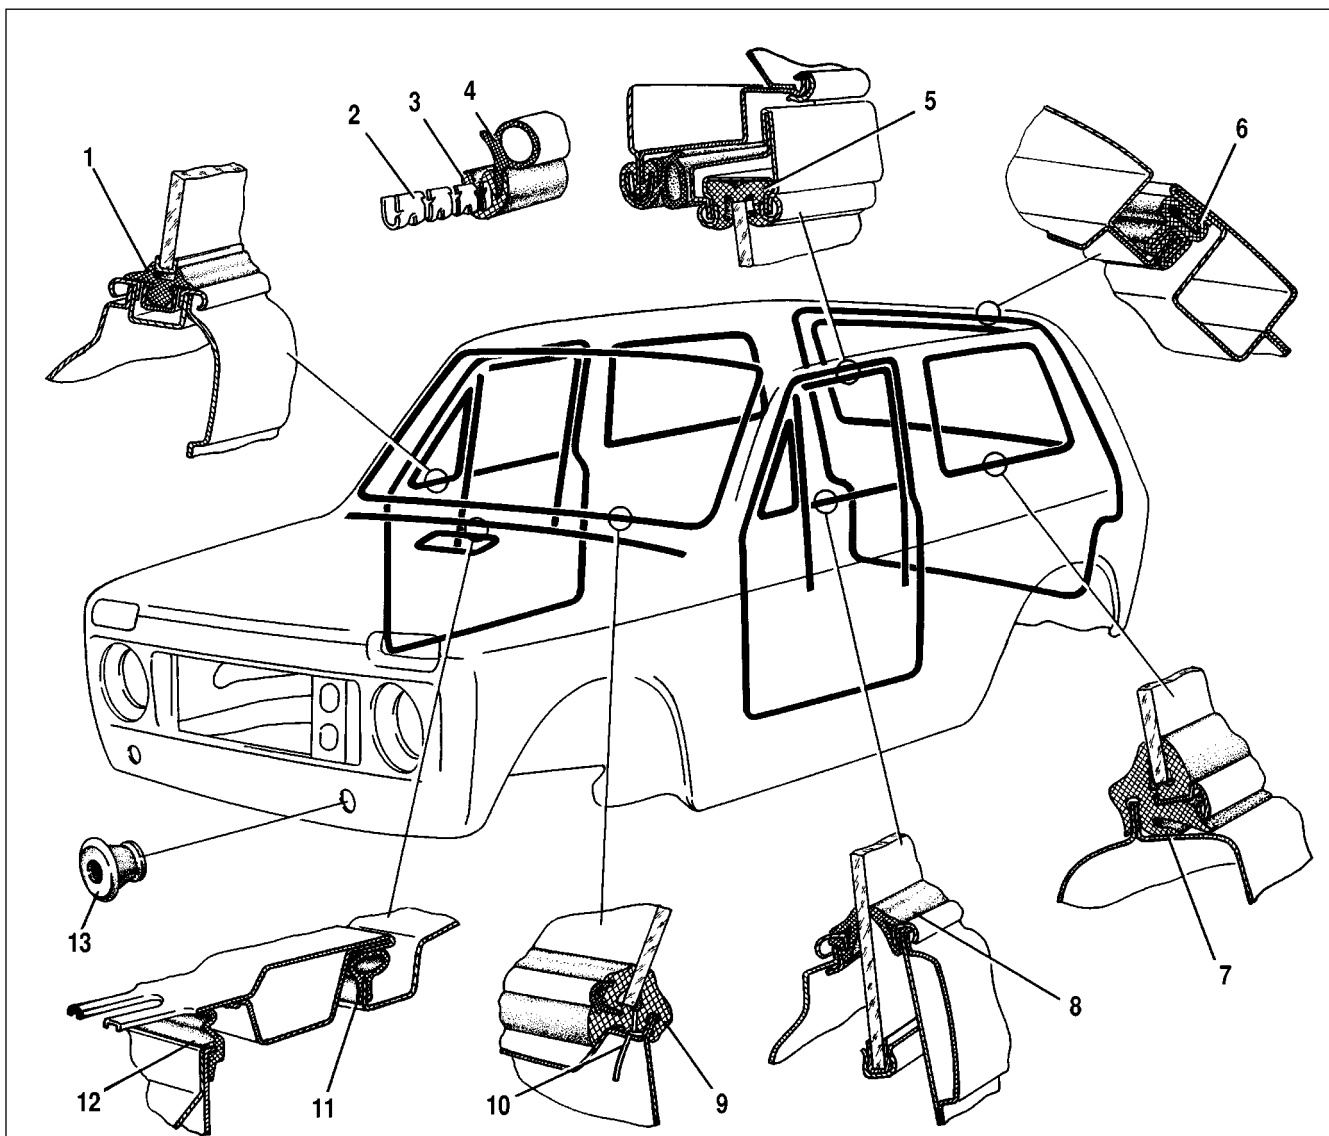

Fig.8-9. Rubber seals:
The body tightness is ensured by use of rubber seals (Fig.8-9), pastes, bodyfillers, sealants, rubber plugs in provisional holes and thorough levelling of adjoining parts.
- rinse seal 9 grooves (Fig.8-9) with water, then blow dry with compressed air;